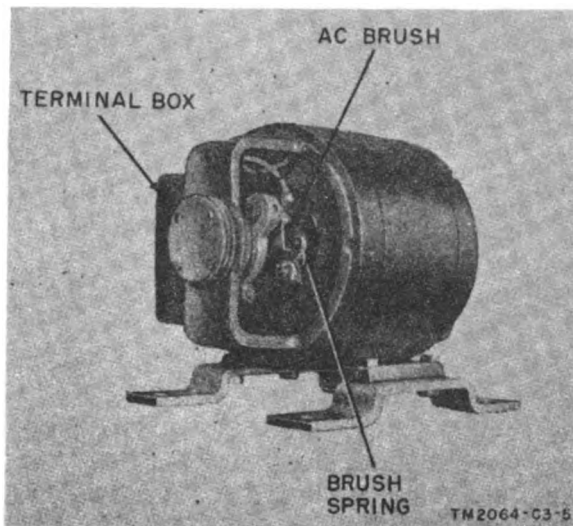

Figure 9.1 (Added) *Emergency ringer for Panel BD-132-A (11659-Phila-52 only), end plate removed.*
e. *Emergency Ringer* (fig. 2). A close-up view * * * Telering becomes disabled. The emergency ringer (fig. 9.1) furnished with the BD-132-A (11659-Phila-52 only) is equipped with a terminal box and removable end plates, and it requires no field lubrication.